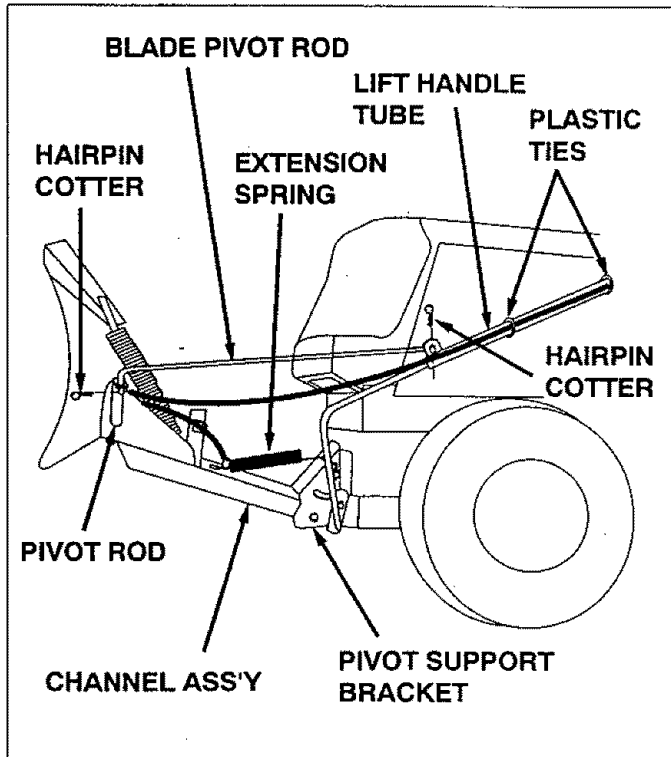

FIGURE 32
- Attach the extension spring to the channel and to the pivot support bracket as shown in figure 32.
- Attach short end of the blade pivot rod to the lift handle tube and the long end to the pivot rod. Secure both ends with a hairpin cotter. See figure 32.
- Use the two plastic ties to hold the cable securely to the outside of the handle tube and away from the tractor to avoid direct heat from the tractor muffler. See figure 32.
- Refer to figure 32.